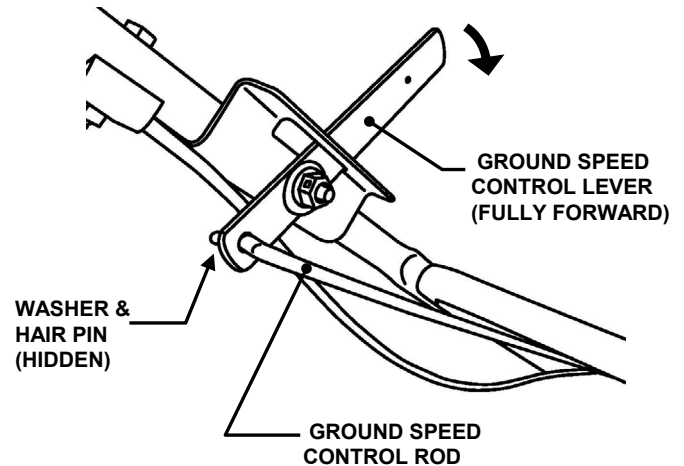

FIGURE 11
3. Slide Ground speed control lever fully forward. See Figure 11.
5. Thread rod in until upper end of rod aligns with hole in bottom of ground speed control lever. See Figure 11. Insert upper end of rod into hole, and secure with 5/16" flat washer and hair pin.